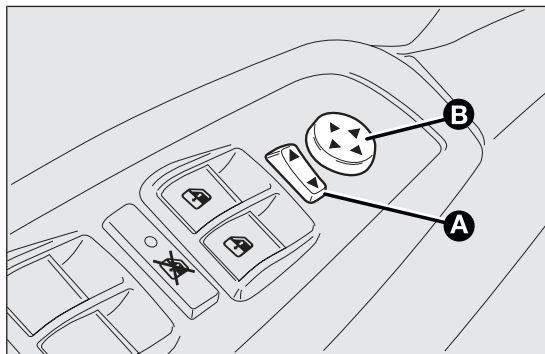

fig. 37
- ☐ use selector A fig. 37 to select the mirror (left or right) to be adjusted;